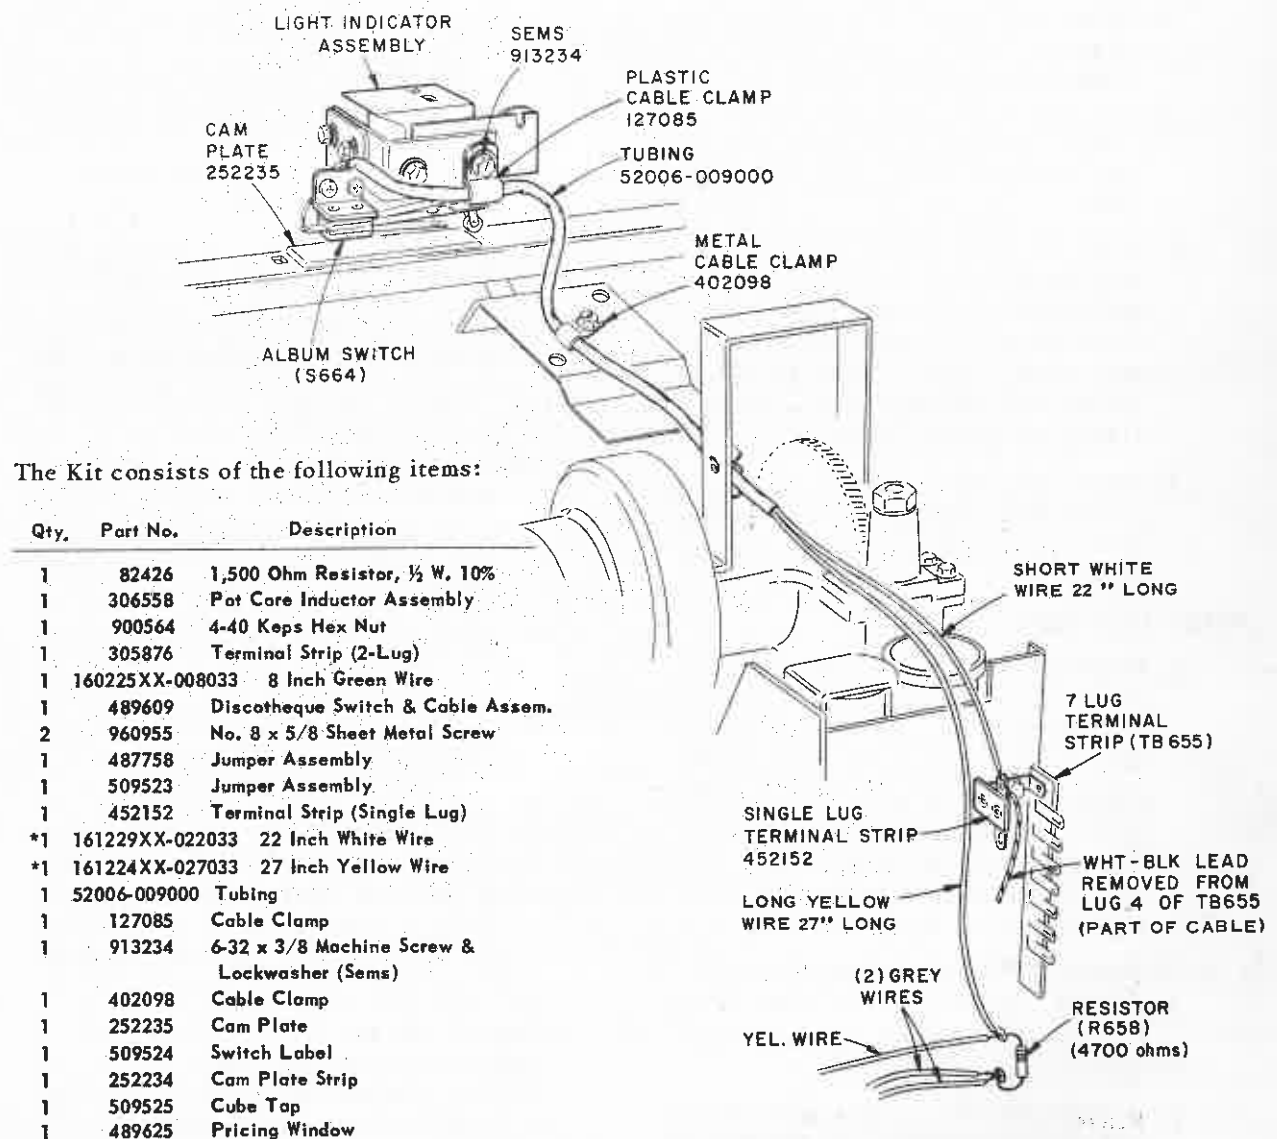

Figure 1. Mechanism Modification.
- Disconnect the three wires (white-grey; grey; and white-black) from the Album Switch (S664), see Figure 1.
2. From Kit (See Figure 1)
- Insert the white and yellow wires into sleeving (furnished in kit) and fasten to mechanism using the metal cable clamp (Part No. 402098) with existing screw and plastic cable clamp (Part No. 127085) with new sems screw (Part No. 913234), as shown in Figure 1.